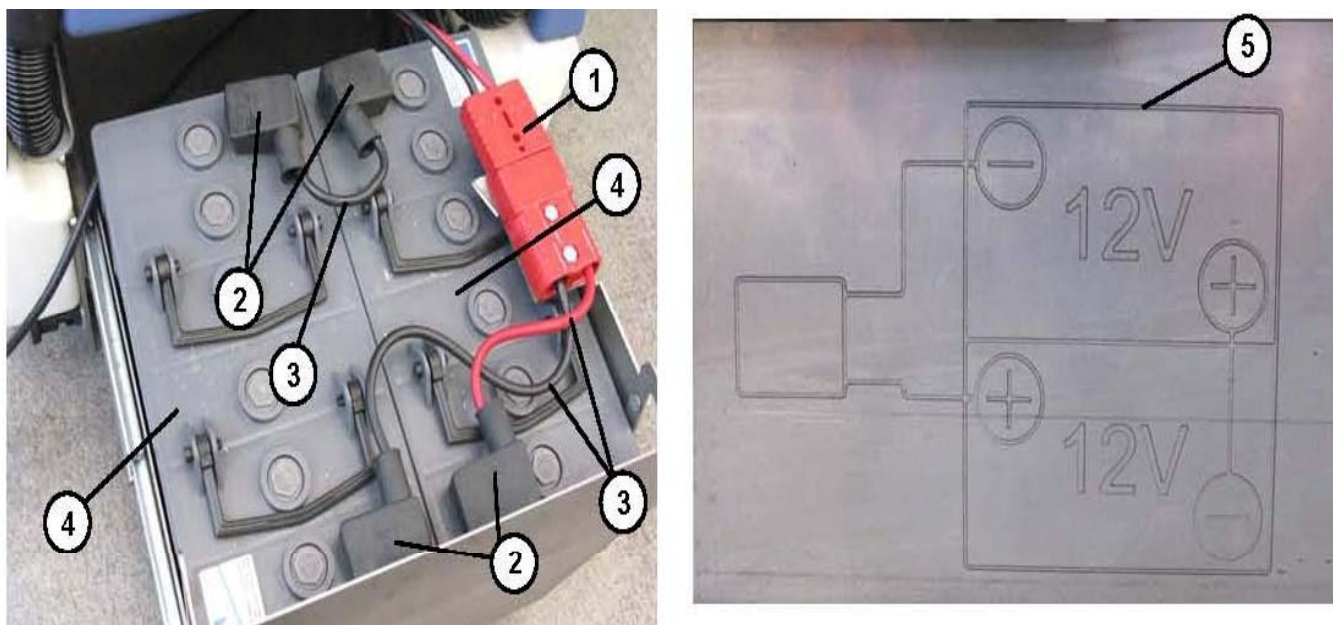

Figure 11-1
1. Remove the battery holder drum and disconnect the battery connector (1, **Figure 11-1**) (See the procedure in the User and Maintenance Manual).
2. Disengage the blade guards of the poles (2) of the batteries.
3. Disconnect the terminals from the poles (2) of the batteries and move the electrical cables (3).
4. Carefully remove the batteries (4).
- the batteries need to be reconnected according to the diagram (5).